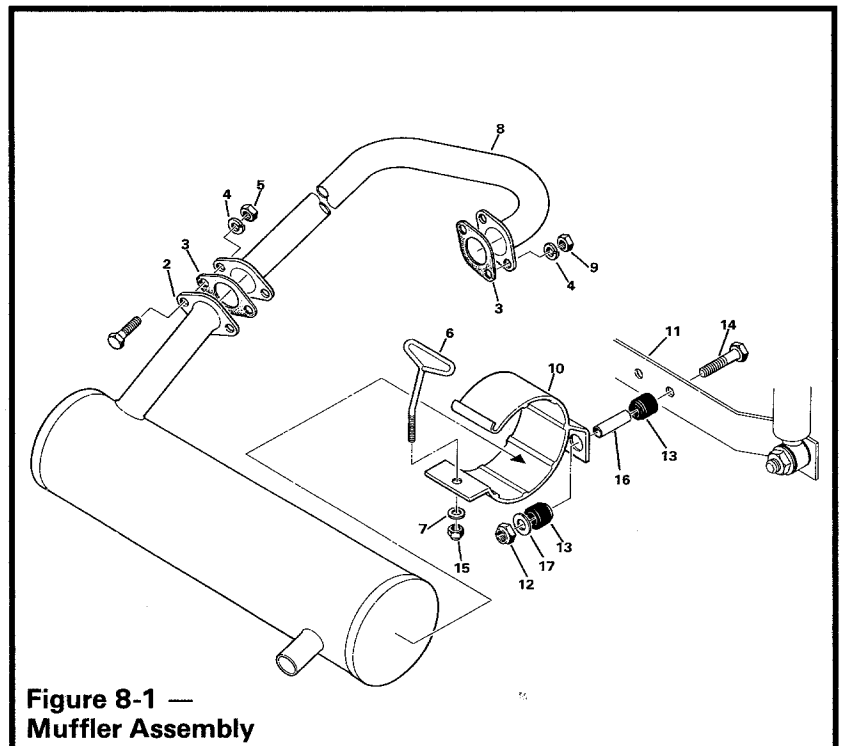

Figure 8-1 —
2. Remove nuts (5), washers (4), and bolts (1) at exhaust pipe (8) connection (Figure 8-1).
3. Remove nuts (12), washers (17), steel bushing (16), rubber mounts (13), and bolts (14) from muffler mounting bracket (11).
5. Remove nut (15), washers (7), and "T"-bolt (6) and slide clamp off muffler.
2. Remove clamp (10), rubber isolating mounts (13) and steel bushing (16). (Figure 8-1).
1. Remove nuts (9) and washers (4) from exhaust header connection to exhaust manifold (**Figure 8-1**).
2. Remove nuts (5), washers (4), and bolts (1) at exhaust header connection to muffler.
3. Remove exhaust header (8) and gaskets (3).